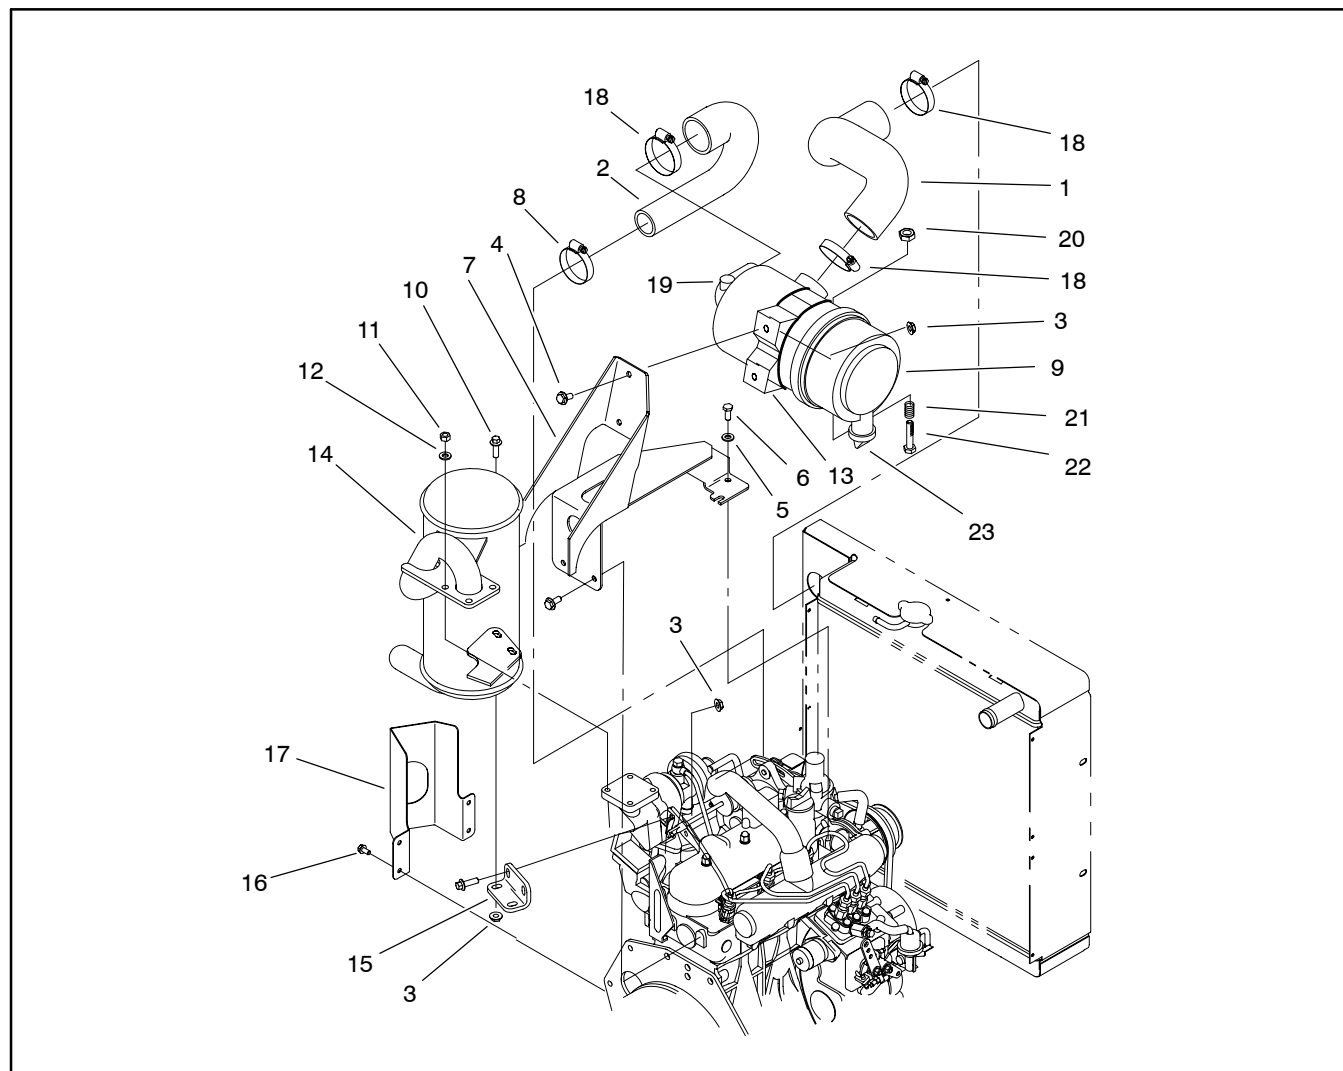
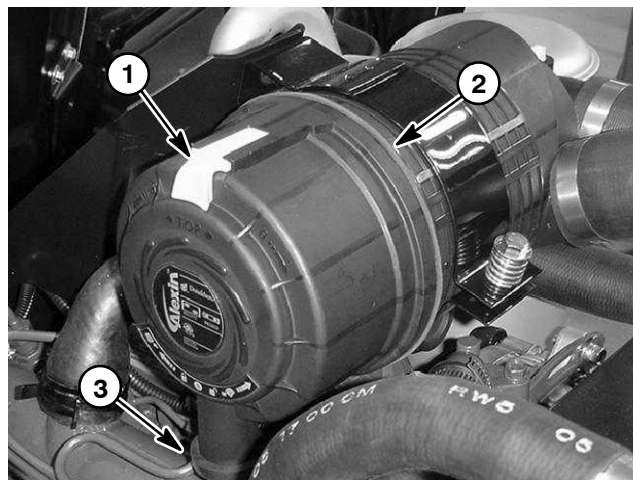

Figure 1
Figure 3
Muffler Removal (Fig. 1)
Muffler Installation (Fig. 1)
Air Cleaner Assembly Removal (Fig. 1)
2. Remove air cleaner components as needed using Figure 1 as a guide.
Air Cleaner Assembly Installation (Fig. 1)
1. Assemble air cleaner system using Figure 1 as a guide. Make sure that vacuator valve is pointed down after assembly (Fig. 3).